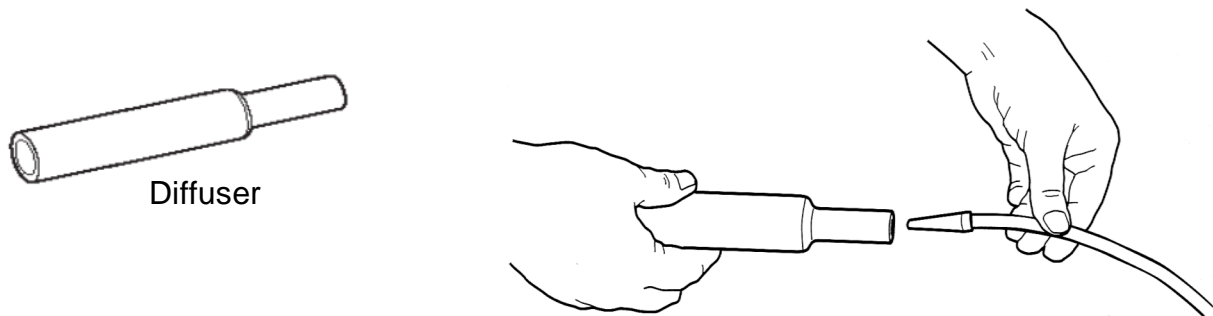

Figure 8
5. Attach the Diffuser (available as an optional accessory) to the end of the tester's hose. (See Figure 8)